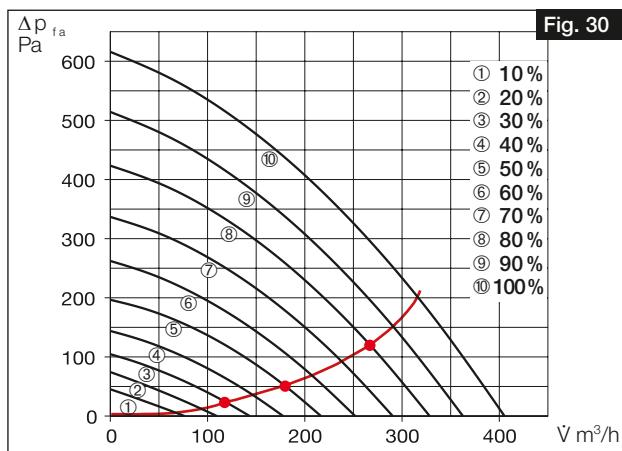

Fig. 30
6. If individual measuring points are connected, the system characteristic curve is for supply or extract air (cf. Fig. 30).